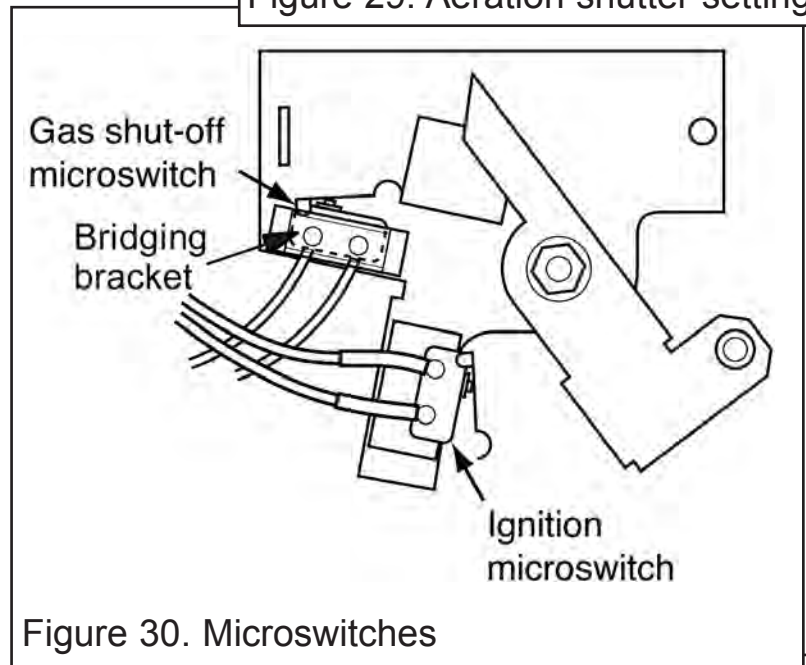

Figure 30. Microswitches
(See figures 30 & 31).
2. Disconnect the leads from the ignition microswitch (The lower of the two microswitches - See figure 30).
See figures 30 & 31.
3. Detach the bridging bracket, microswitch assembly by removing two screws (See figure 30).